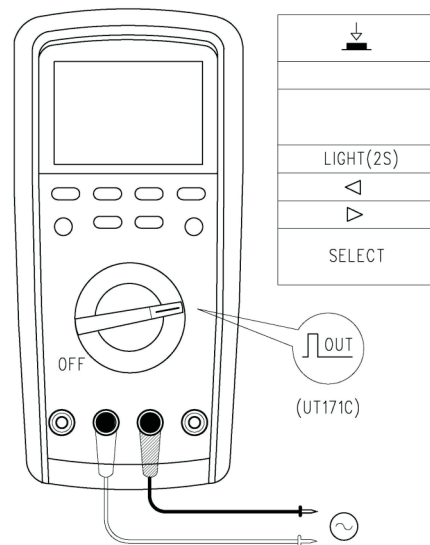

Figure 13
11. Square-wave output (see Figure 13)